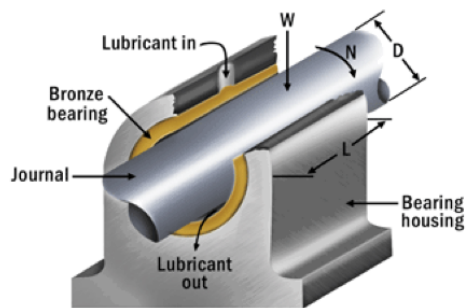

Figure 23: Components of a journal bearing.
**Journal bearings** consist of a journal (shaft) and a bearing (see Figure 23).